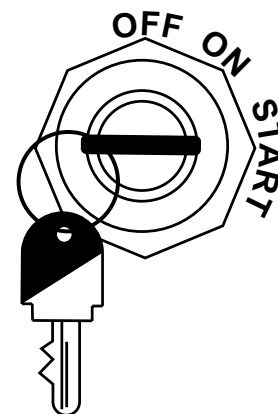
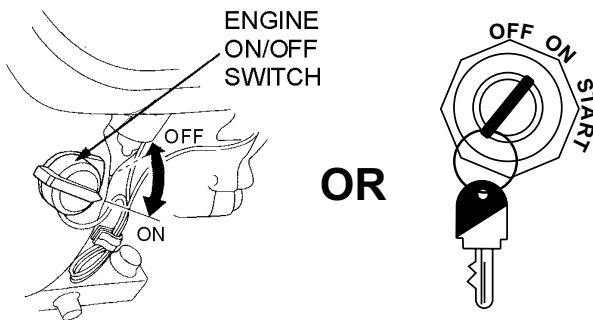

Figure 12. Engine ON/OFF Switch (Electric Start)
Figure 13. Engine ON/OFF Switch (Recoil Start)
6. Turn the engine ON/OFF switch (Figure 12) to the START position and hold it until the engine starts. When engine starts, release the key, allowing it to return to the ON position.
2. Place the Engine ON/OFF switch (Figure 13) in the ON position.
4. Turn the engine on/off switch (Figure 12 or Figure 13) to the OFF position to shut down the engine.
3. Turn the ignition switch (Figure 12) to the OFF position.